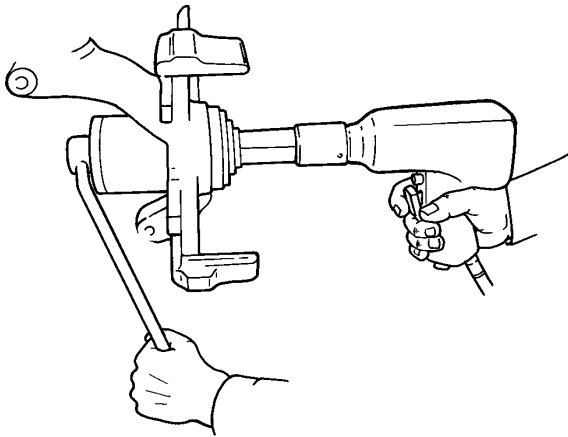

**Figure 2**
3. Lightly lubricate the new bearing, and position it for installation with the tool components assembled as shown in Figure 2. Press the bearing into the spindle assembly until it bottoms.
- The **1995-2001 Contour/Mystique** application uses bearing installer No. 311887. See Figure 2.
- The **1991-99 Escort/Tracer** application uses bearing installer No. 314305. See Figure 2.
- The **1993-99 Villager** application uses bearing installer No. 314299 and step adapter No. 314301. See Figure 2.